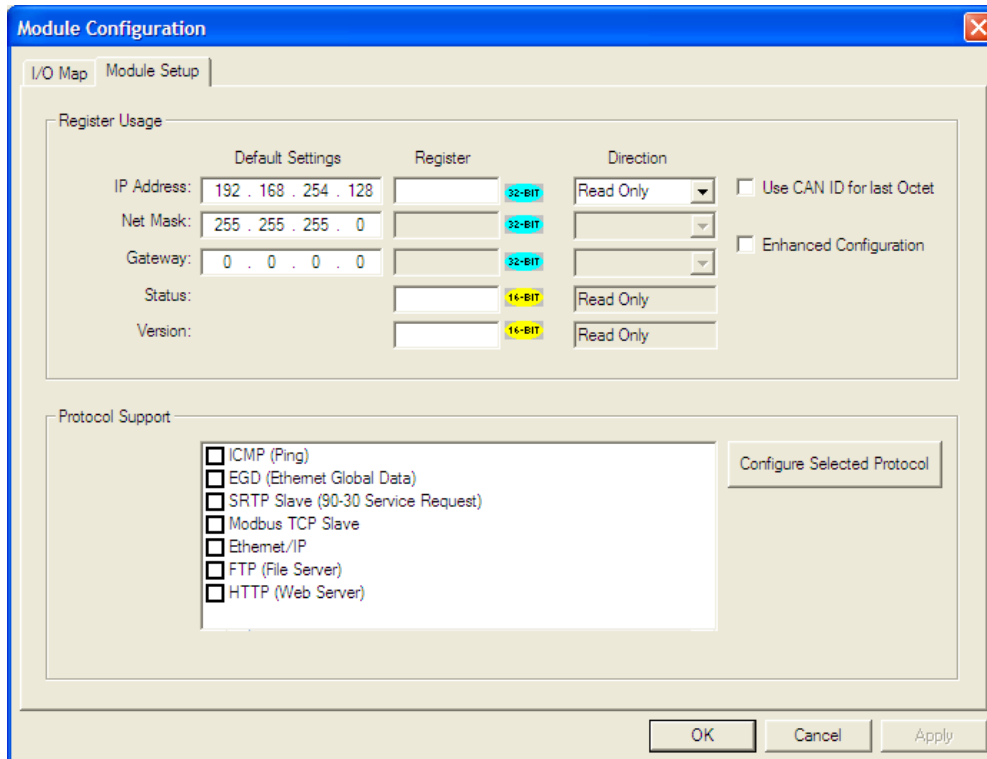

Figure 7.2.2 – Ethernet Module Configuration
3. Click the **Config** button to the right of the Ethernet Module, and then select the Module Setup tab, revealing the Ethernet Module Configuration dialog as shown in figure 7.2.2